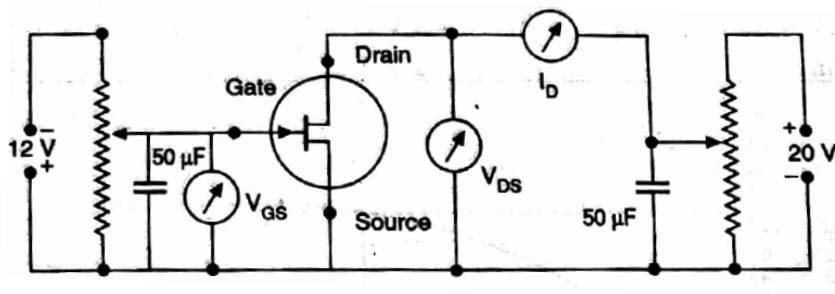

Fig. 7: A Diagram Showing FET Connections
**Procedure:** 1. Draw a diagram showing the scheme of connections as given in Figure 7. and connect them accordingly.